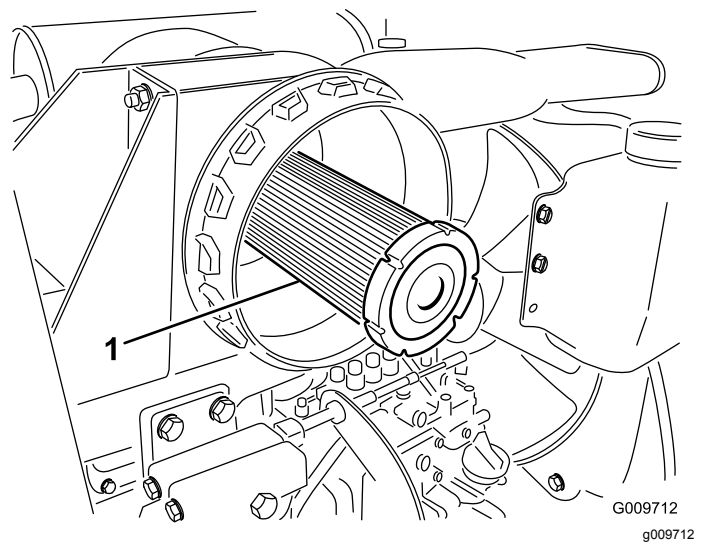

Figure 92
**Important:** Do not attempt to clean the safety filter (Figure 92). Replace the safety filter after every 3 primary filter services.